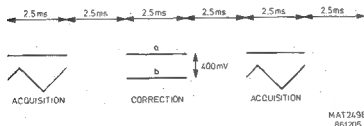

Figure 9.1 Voltage-waveform present at X3382 and X3384.
- Adjust R7939 (Ch. A) and R8139 (Ch. B) on unit A33 so that the lower side of the signal jumps just upwards and that the triangular input signal is visible (see figure 9.1 for this).
- Adjust R7939 (Ch. A) and R8139 (Ch. B) so that the distance between level a and b during the correction stroke in figure 9.1 is 400 mV (+ or - 20 mV).
- Adjust the voltage level during the correction stroke (see figure 9.1) to 0 V with R8319 and R8339 on unit A33 for Ch. A and R8359 and R8379 on unit A33 for Ch. B.
- Adjust the voltage level during the correction stroke (see figure 9.1) to 0 Volt with R8319 and R8339 on unit A33 for Ch. A and R8359 and R8379 on unit A33 for Ch. B.